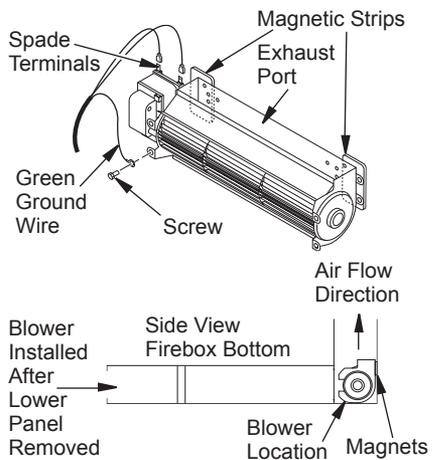

Figure 14 - Blower Model BK
1. Attach the power cord to the blower motor by firmly pushing the two female terminals at the end of the power cord onto the two spade terminals on the blower motor (see Figure 14).
- Attach green ground wire from power cord to blower housing using screw provided (see Figure 14, page 13). Tighten screws securely with a phillips screwdriver.
- Place the blower against the lower rear wall of the firebox outer wrapper with the exhaust port directed upward. Depending on your model, you may have to carefully route the blower assembly past the controls and brackets and position the blower inside the back opening. The blower will be held in position against the back wall by the magnets incorporated onto the blower housing (see Figure 14, page 13).